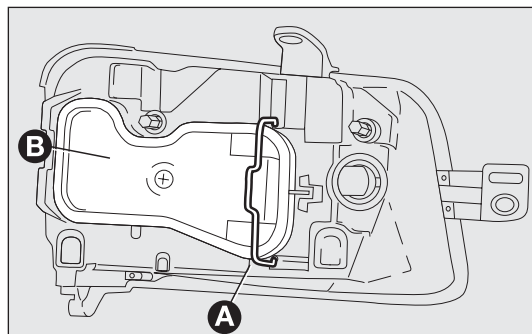

fig. 141
- ☐ release the clip A-fig. 141 and remove the cap B;